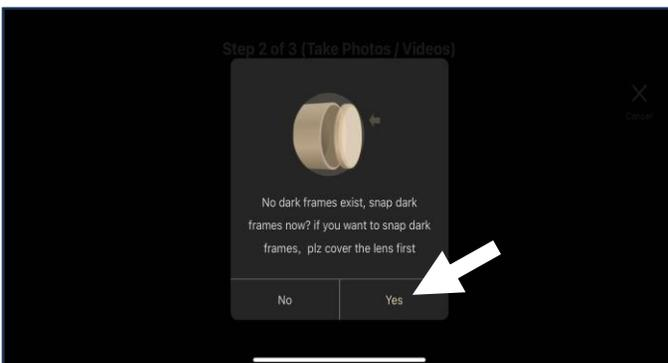

Fig. 5.3
4. **Follow the Prompts:** If the app does not find a dark frame that matches your current Exposure and Gain settings, it will guide you through the collection process (Fig 5.3 & 5.4):